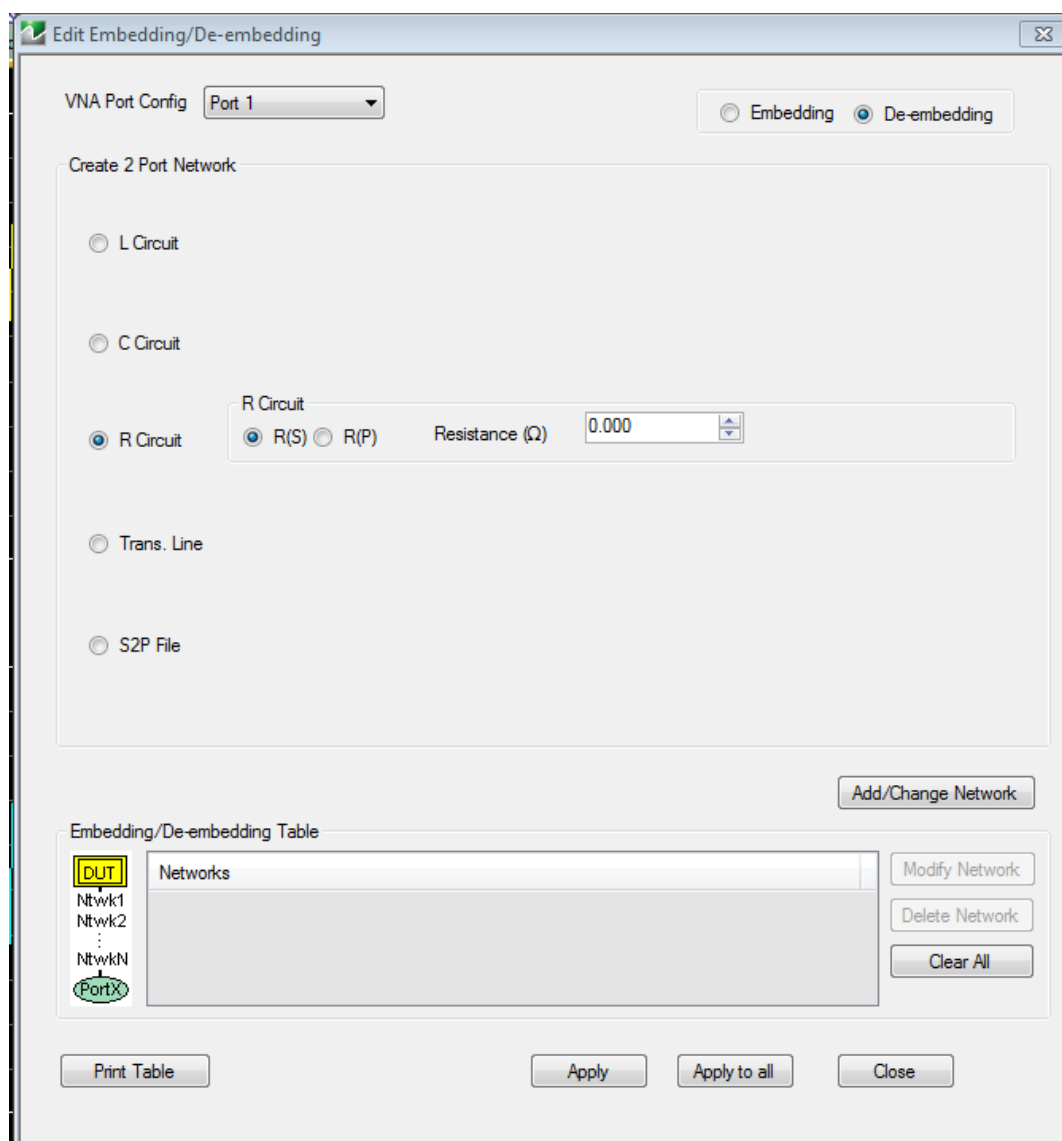

Figure 9-6. EDIT EMBEDDING/DE-EMBEDDING Dialog Box - R Circuit Setup Selected
The entry mode for these resistive elements is shown in the E/DE dialog box below (Figure 9-6). Both series (denoted by an (S)) and shunt (to ground) elements (denoted by a (P) for parallel) are allowed and selectable with the radio buttons. Since this element is symmetric, no orientation knowledge (with respect to DUT port and VNA port) is needed. The default units are: